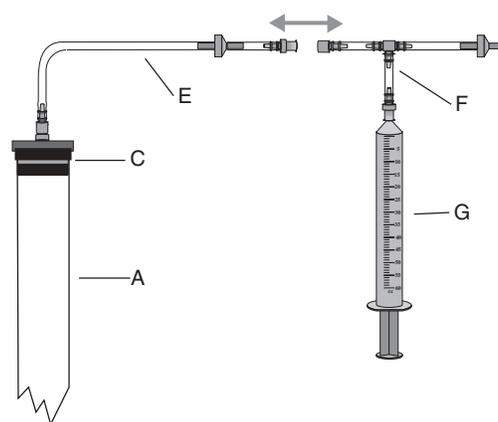

Figure 4
5. Disconnect piece E from piece F (Figure 4) to remove the vacuum pump.